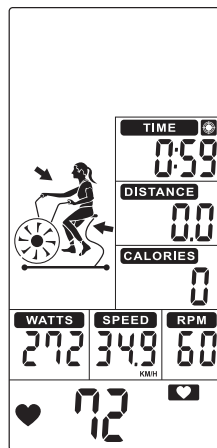

FIGURE 40
- The preset TIME value counts down, DISTANCE (DISPLAY 4), CALORIES (DISPLAY 5), WATTS (DISPLAY 6), SPEED (DISPLAY 2) and RPM (DISPLAY 1) start counting. (Figure 40).